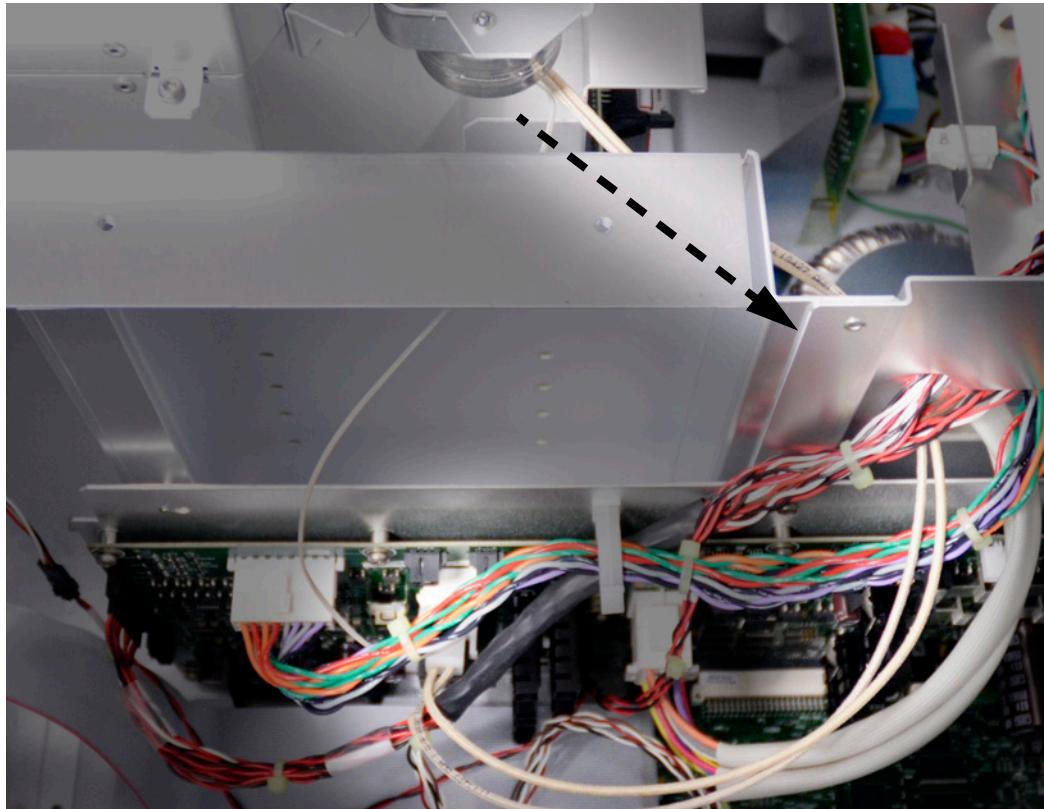

Figure 20 Routing the oven cables to the main board
- 6 Route the cables from the oven assembly through the opening in the headspace chassis and to the main board as shown in Figure 20.